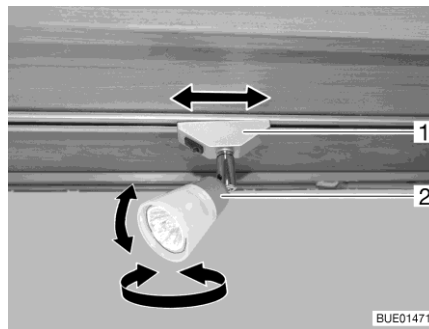

Fig. 32 Spotlight
- Turn housing (Fig. 32,2) of the spotlight to the desired direction. The housing can be turned in following directions:
- Turn holder (Fig. 32,1) through approx. 45°.
- Turn holder (Fig. 32,1) through 90°.